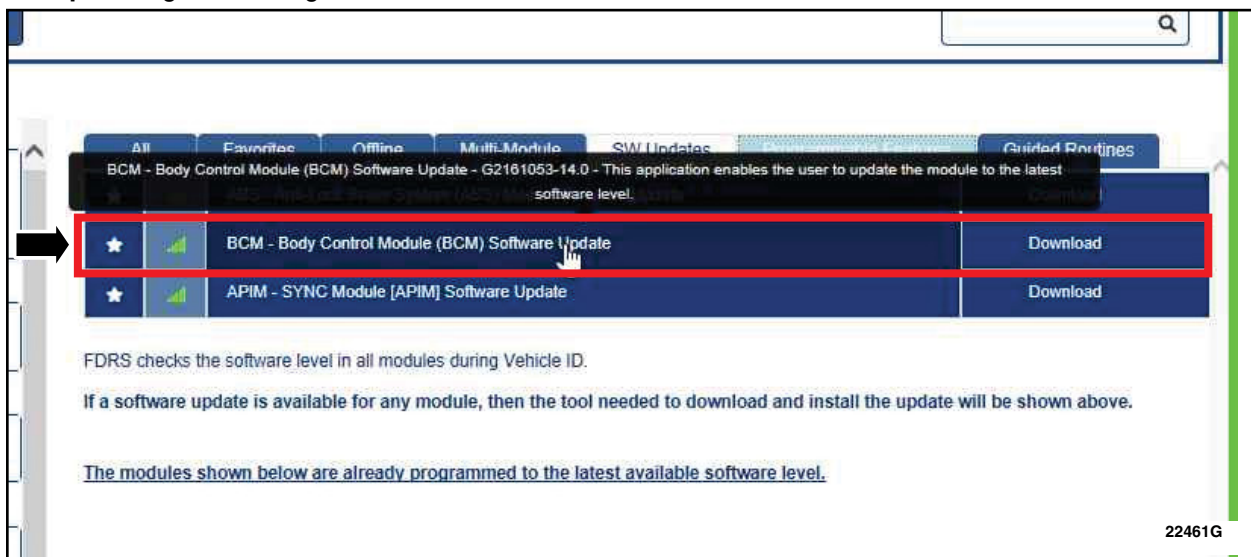

FIGURE 4
10. From the list on the RH side of the screen, select **BCM - Body Control Module (BCM) Software Update** again. See Figure 4.